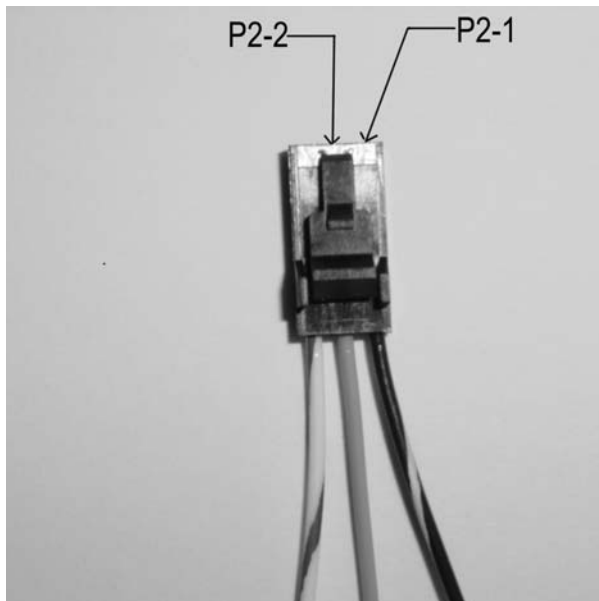

Figure 14. Potentiometer Connector P2 Pins 1 and 2
4. Remove P2 and connect DVM between P2 pin 1 and P2 pin 2 (Figure 14). Loosen screws to potentiometer to allow movement of potentiometer gear without moving nylon worm gear. Set potentiometer to 1.5K ohms \pm 100 ohms for Milroyal B, C, and Macroys, 0.87 ohms \pm 0.1 ohms for mRoys and 0.3 ohms \pm 0.1 ohms for Maxroys and Milroyal D E CCs and re-tighten potentiometer screws. This sets the resistance of the potentiometer.